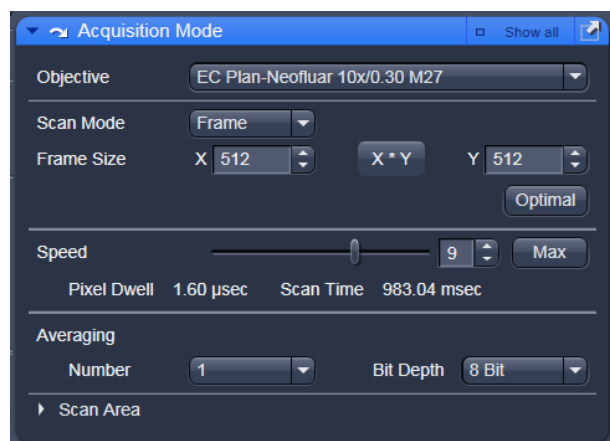

Fig. 101 Acquisition Mode tool
- Open the **Acquisition Mode** tool (Fig. 101).